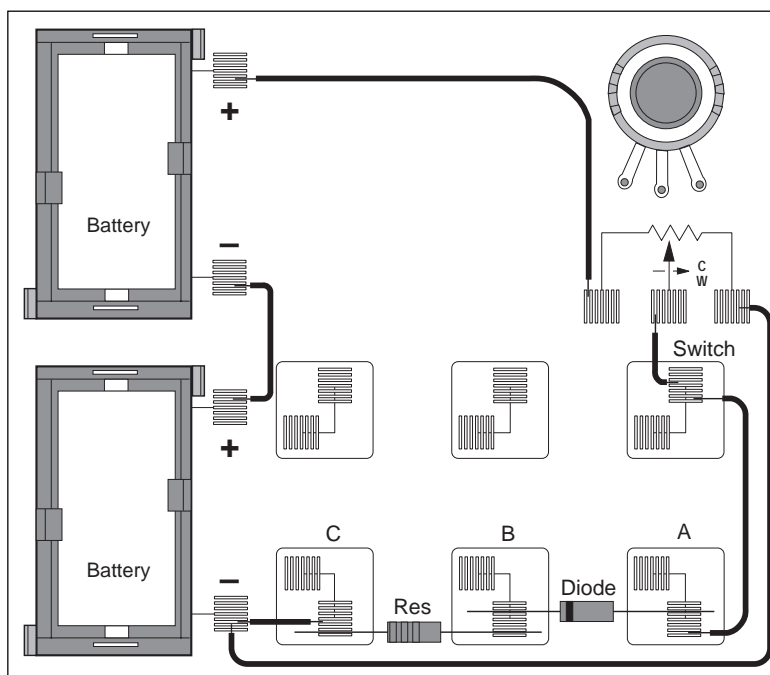
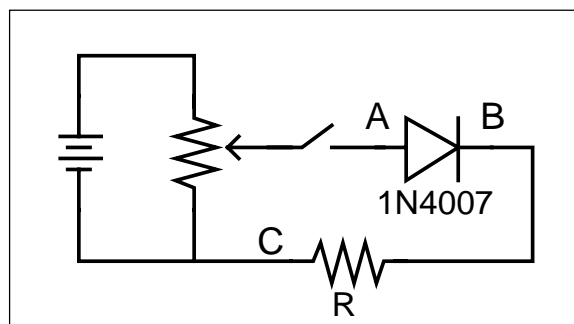

Figure 9.1a
Figure 9.1b
1. Connect the circuit shown in Figure 9.1a using the 1N4007 diode you've been supplied and the 1 K $\Omega$  resistor. Use Figure 9.1b as a reference along with Figure 9.1a as you record your data. Note the direction that the diode is oriented, with the dark band closer to point **B**.